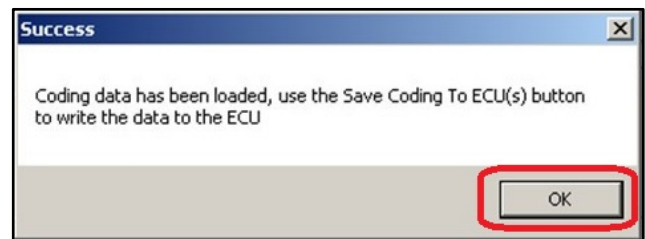

Figure 4
13. If the correct file is loaded, you will see a "Success" pop-up. Click "OK" (refer to Figure 4).